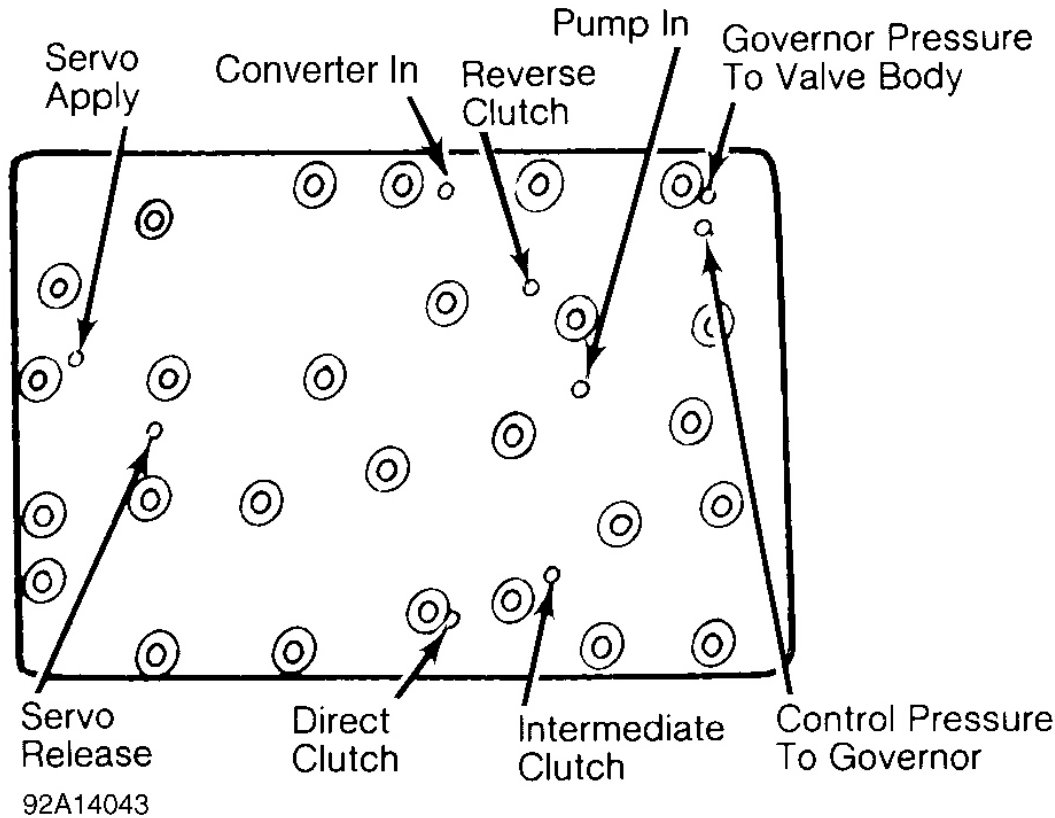

Fig. 3: Identifying Air Pressure Test Apply Ports on Adapter Plate
2. To make air pressure checks, loosen valve body cover bolts. Remove cover and valve body assembly. Install Special Adapter Plate (T82P-7006-B) in place of valve body. Inoperative units can be located by applying air pressure to transaxle case passages, through adapter plate, leading to clutches, servo and governor. See **Fig. 3**.